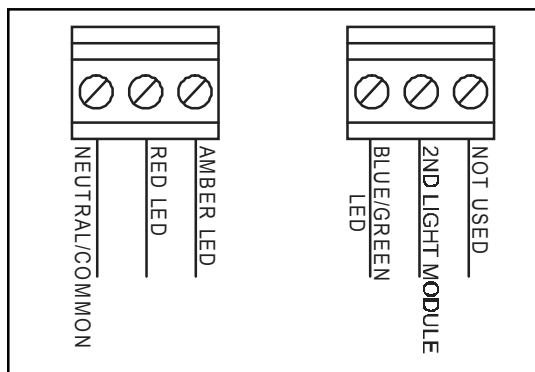

Figure 1. Wiring
- c. **Cat. Series 108ID** Using the supplied mounting gasket as a template, punch the four mounting holes. Punch the wiring clearance hole in the mounting surface to be sufficiently larger than that in the gasket to ensure the wiring insulation is protected from abrasion by the gasket (without interfering with the mounting screw holes), or provide other appropriate wire insulation abrasion protection as needed. Mount the base to the surface using the (2) screws (supplied).
- a. **Cat. Series 108I** Connect field wiring to the terminal block as shown in Figure 1.